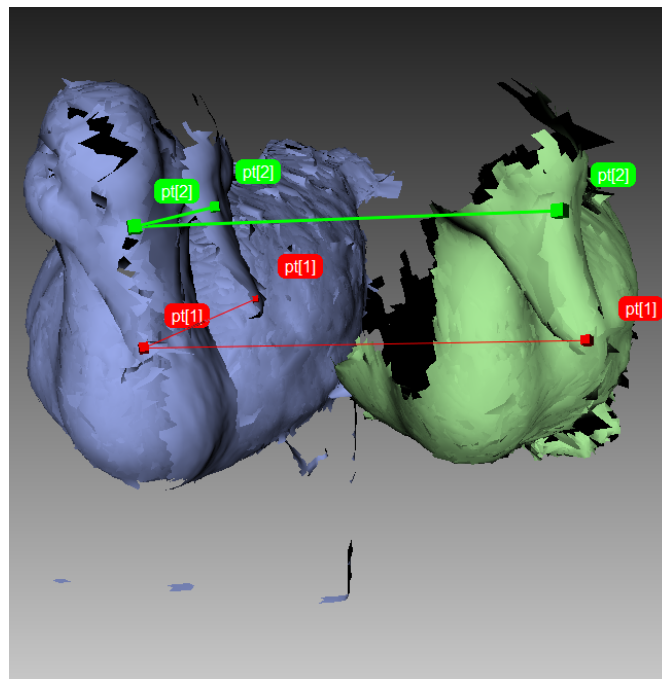

Figure 8.33.: Before alignment: two point-set added.
When specifying points in the *Rigid* and *Nonrigid* modes, the application automatically creates pairs. Having specified one pair, you can immediately create the next one. In *Complex* mode you must confirm set creation by hitting `Space` or by clicking *New set* from the left panel, because the set may comprise multiple points (see Figure 8.27. and Figure 8.33.).
3. Specify one or more point sets on the scan surface (see Figure 8.33.), keeping in mind the recommendations in Specifying Points and Editing Their Positions.